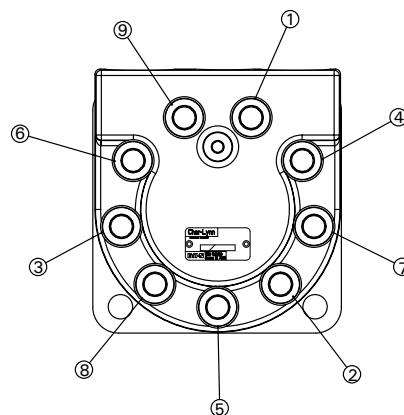

Figure 8
25. Lubricate nine caps screws with DTE-26 and install into flange-Geroler-end cap stack. In a crisscross pattern (See Figure 8), pre-torque screws to 60+/-10 lb-ft. Finally, in a crisscross pattern, tighten screws to 105+/-5 lb-ft.